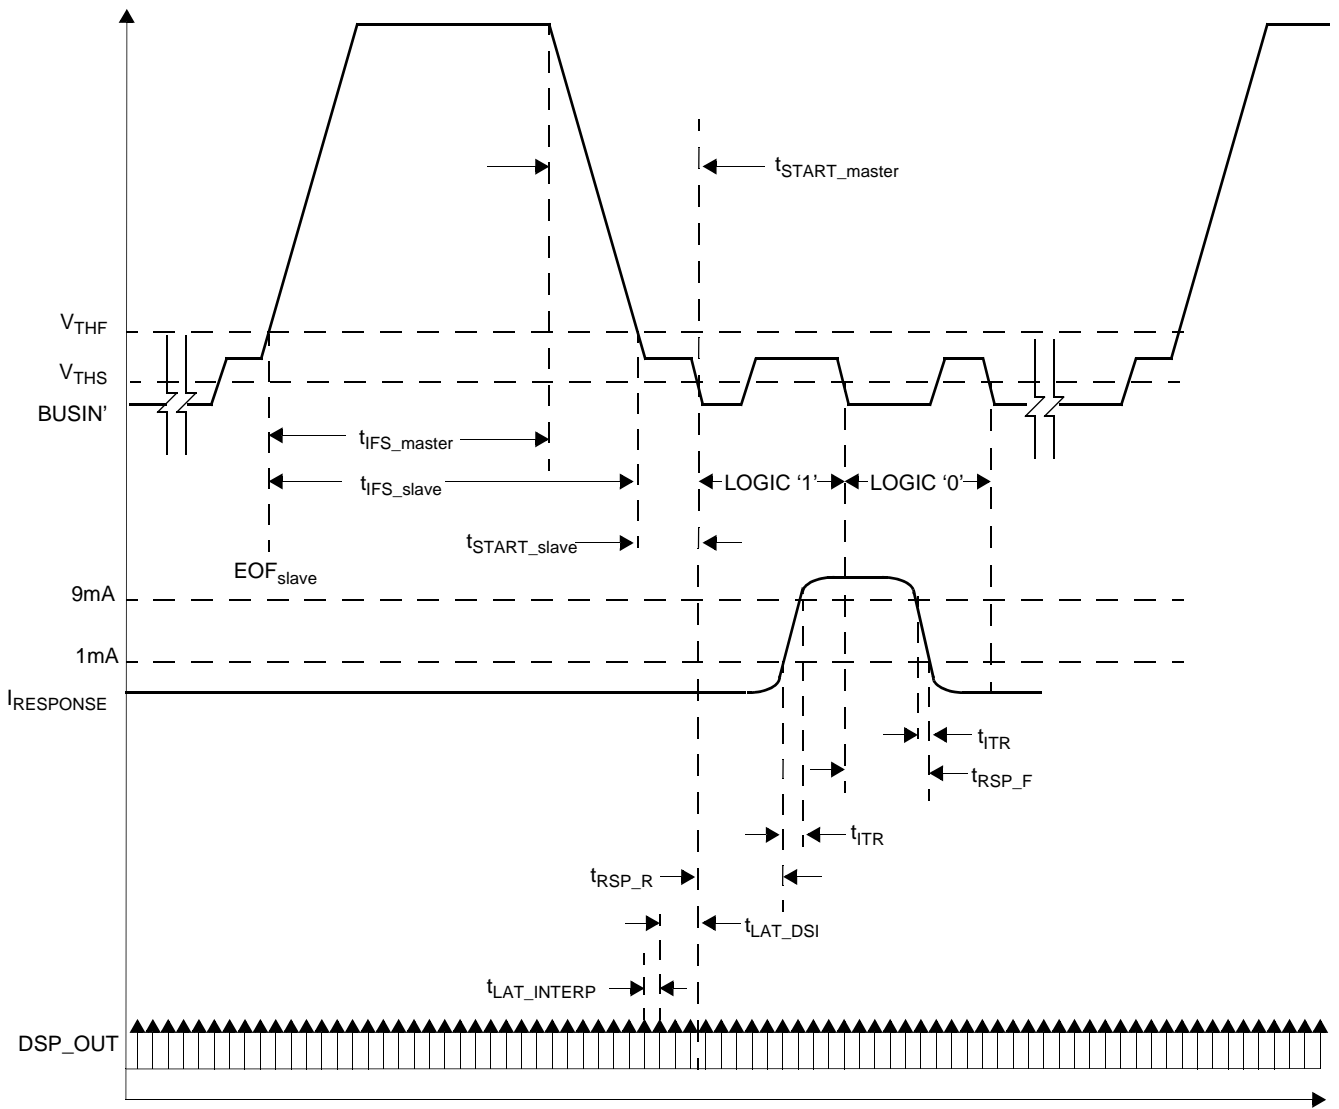

Figure 8. DSI Bus Inter-frame Timing
| 106 | Inter-frame Separation Time (See Figure 8) Following Read Write NVM Command | t_{IFS} | 2 | — | — | ms | (7) |